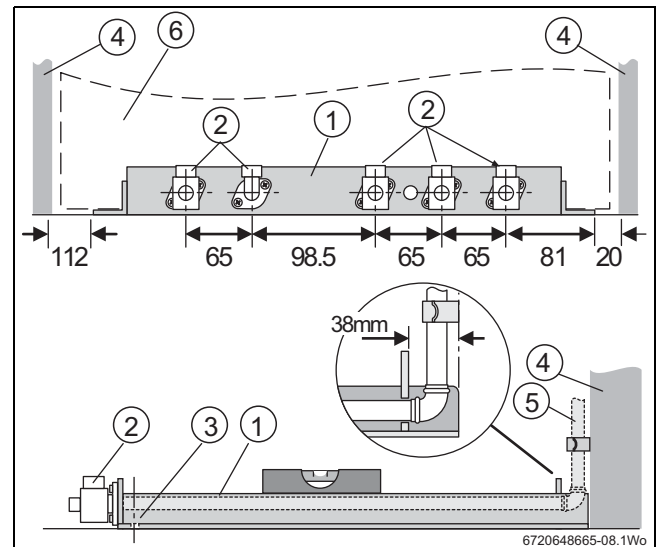

Fig. 20 Pipe positioning
- ▶ Cover the mounting frame manifold assembly [1], figure 20, page 21 to protect the manifold connections.